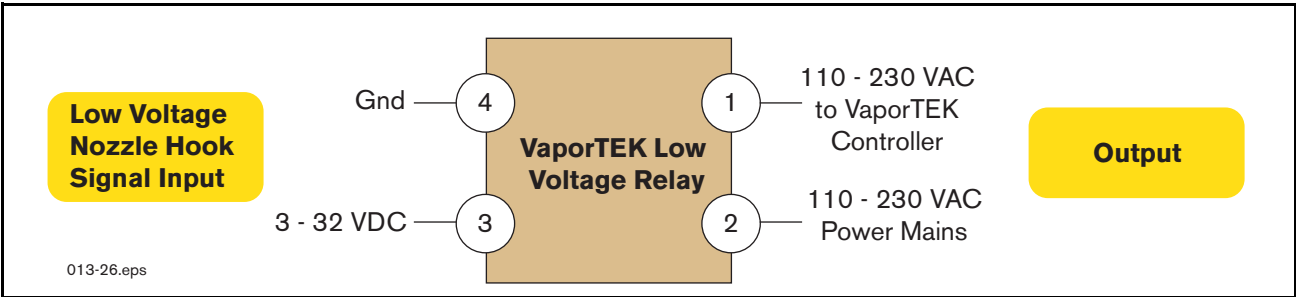

Figure 17. VaporTEK Low Voltage Relay Diagram
- c. A High Voltage source (110-230VAC) is connected to the M1 on the VaporTEK Controller through all the relay circuits on Side A (See Figure 17 for low voltage relay wiring diagrams).